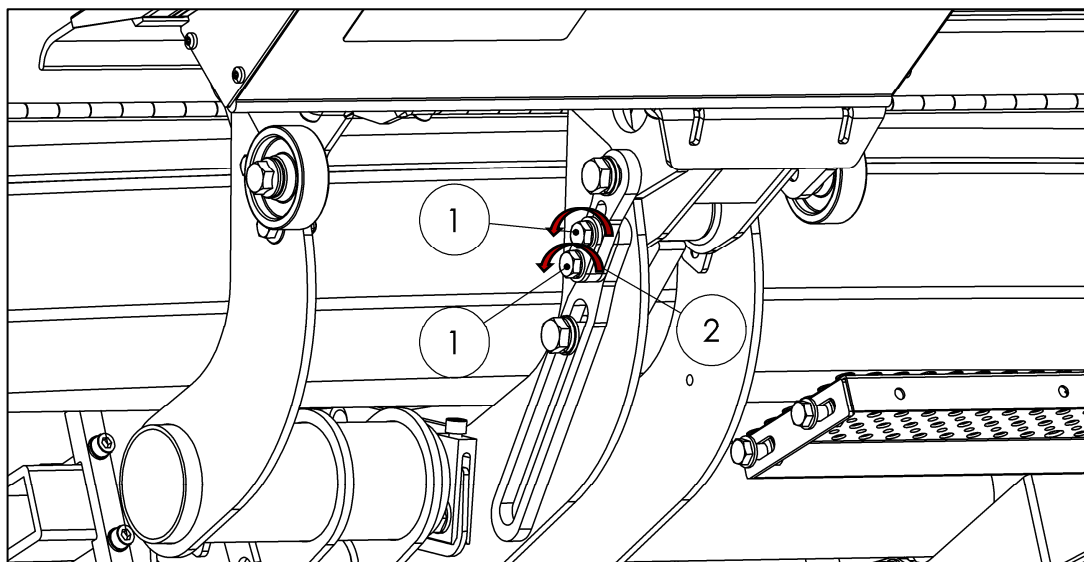

Fig. 75
- Loosen the 2 screws (1) on the clamping plate (2) (see Fig. 75).